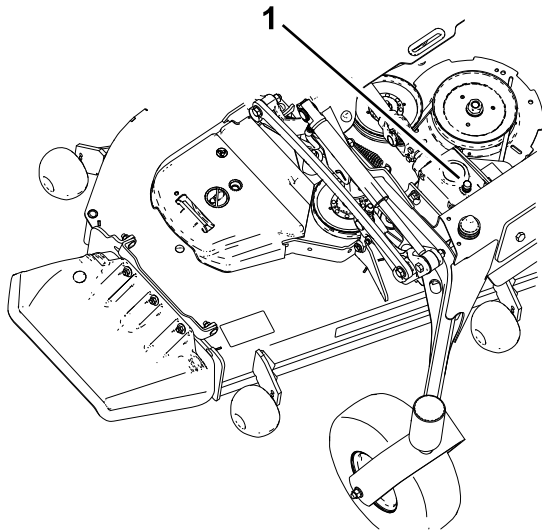

Figure 54
5. Remove the dipstick/fill plug from the top of the gearbox and ensure that the lubricant is between the marks on the dipstick (Figure 54).